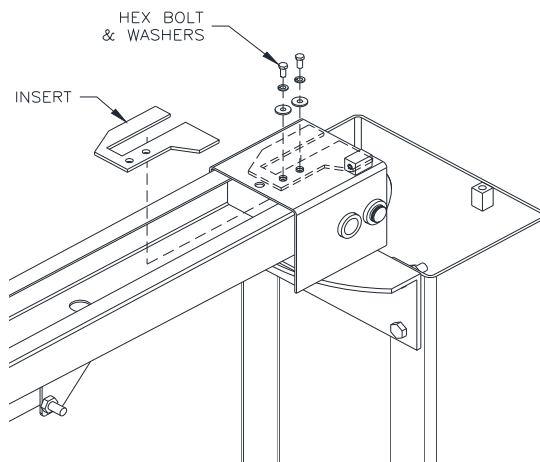

Fig 13 – Cable Trapping
- 28) Place Cable Trap Plate inside Overhead and slide into end of Overhead. Bolt plate to Overhead end using (2 Sets) M6 bolt, flat washer, and lock washer as shown in **Fig 13**. Repeat for both sides.